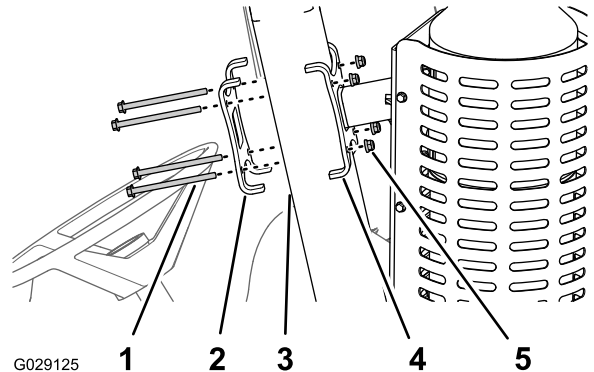

Figure 9
3. Remove the 4 flange locknuts (8 mm), 4 bolts (8 x 120 mm), and rear mounting plate that secure the exhaust-system mount to the front right ROPS tube (Figure 9).